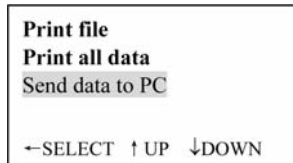

Figure 45
- d. Use  $\uparrow$  or  $\downarrow$  to move cursor to "Send data to PC", see as figure 45.